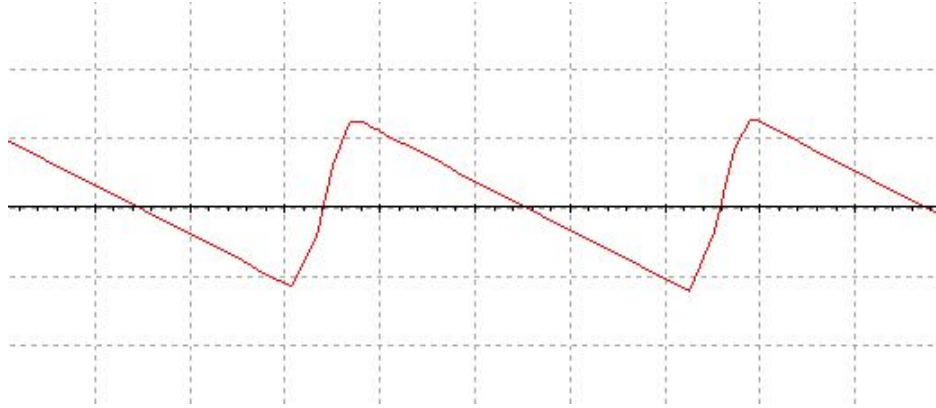

Figure 1-8
16. Using an oscilloscope, connect the probe across the  $100\text{-ohm}$  resistor and set it to measure ac voltage. Set the volts per division to  $1\text{mV}$  and the time per division to  $10\text{ms}$ . The multisim ac peak to peak voltage ripple is measured to be  $5\text{mV}$  (Table 1-2) which fits the requirement of the power supply having a ripple less than  $10 \text{ mV}$ . The dc voltage across the  $100\text{-ohm}$  resistor drops  $5\text{V}$  table 1-2 which is the right voltage to through a USB. Figure 1-8 shows the voltage ripple for the  $100\text{-ohm}$  resistor load with  $2\text{ms}$  per division and  $2\text{mV}$  per division.
Based on Figure 1-8, the voltage across the load isn't 5V. A 5V voltage regulator will ensure that the voltage across the load will be 5V despite minor changes in supplied voltage. The pins of the a L7805CV voltage regulator are shown in Figure 1-10.